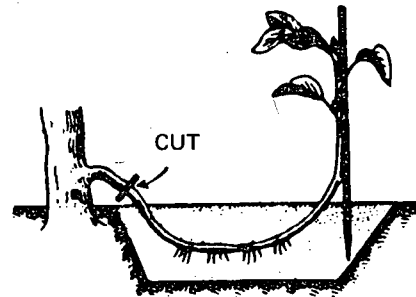

Fig. 4
*Layering*, a partially buried branch not being separated from the original plant, takes root (Fig. 4). e.g. carnation, rubber tree.